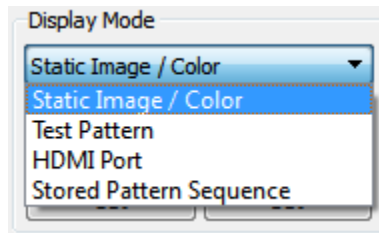

Figure 2-24. DLP LightCrafter GUI Display Mode Options
1. Click and select the desired display mode from the dropdown options as shown in Figure 2-24.